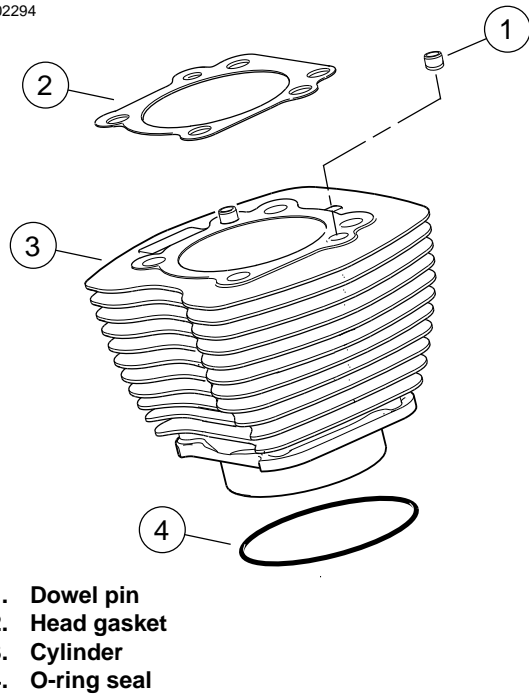

Figure 3-27. Cylinder Assembly
5. See Figure 3-27. Remove o-ring seal (4) from the bottom of the cylinder liner. Discard o-ring seal.